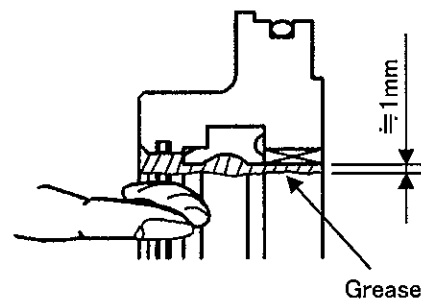

Fig. 7-25
- (1) Rod packing (Fig. 7-25)
Mount the packing without twist. Then, apply the grease around the packing and clearance between the packing and groove as shown on Fig. 7-25